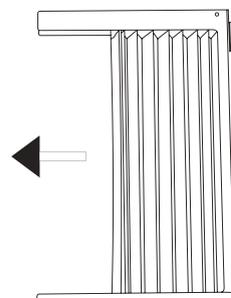

Fig.1
1. Place unit on floor, a bench or a table. Hold the Accordion Panel in one hand and gently pull back the center to free the open end. See Fig.1